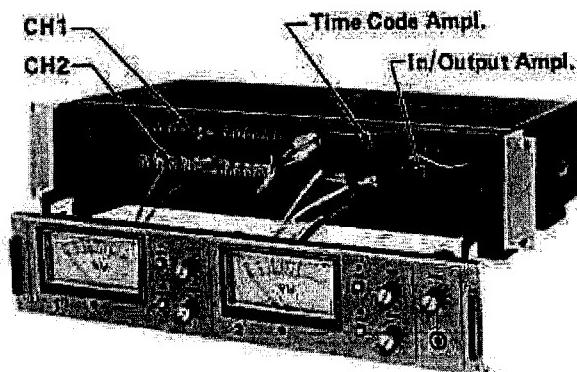

Fig. 9-5-8. Opening the Amplifier Module Front Panel
- * To get at the trim pots for record/reproduce amplifier circuit adjustments, open the meter panel by removing the four set screws, two on each side of the panel. (Refer to Fig. 9-5-8.) With the panel removed, you will see the amplifier boards to which the trim pots are mounted as shown in Fig. 9-5-8. The boards are identical and are exclusively used for their respective channels.